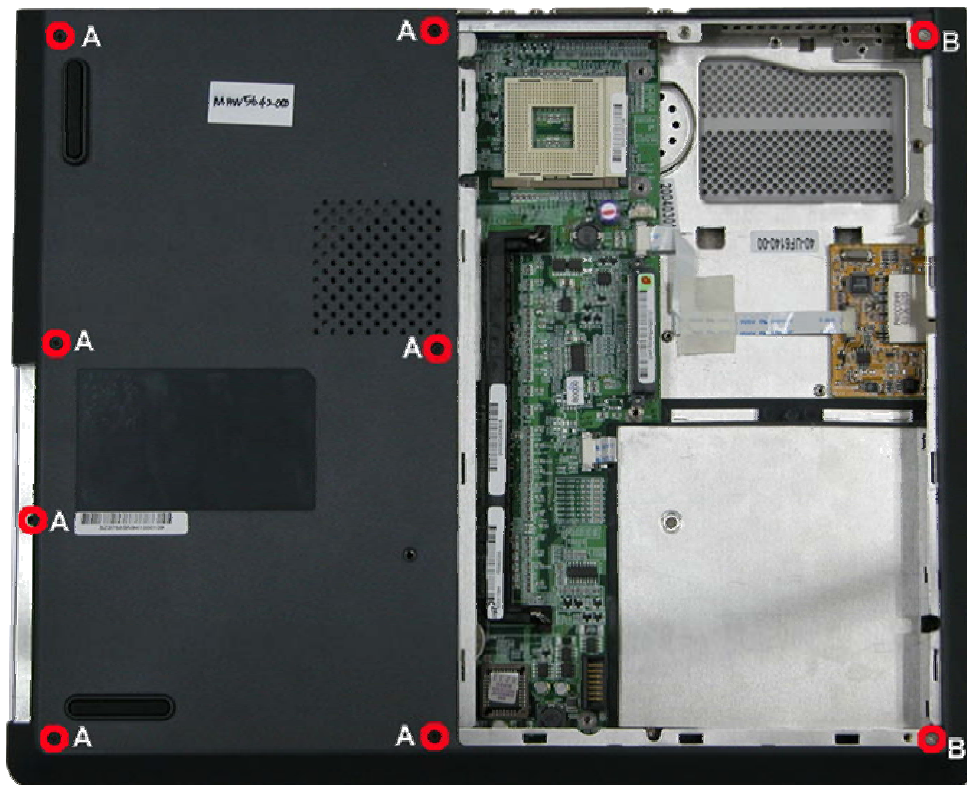

Fig. 20 Bottom Cover
1. Remove all screws on the bottom of the base unit as shown in Fig. 20